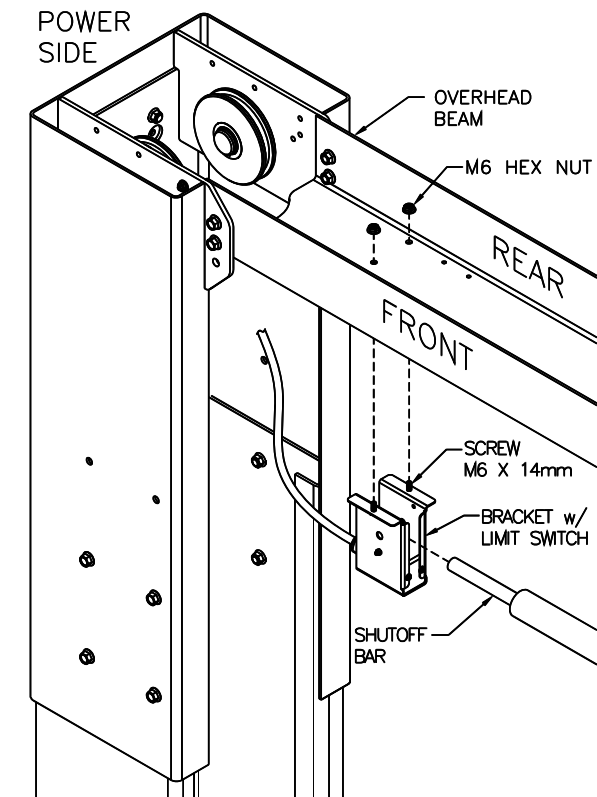

Fig. 9 – Overhead Limit Switch Power Side
- 29) Attach the Overhead Limit Switch to the rear set of holes on the Power Side of the Overhead Beam using the hardware already attached to the switch bracket, **Fig. 9**.